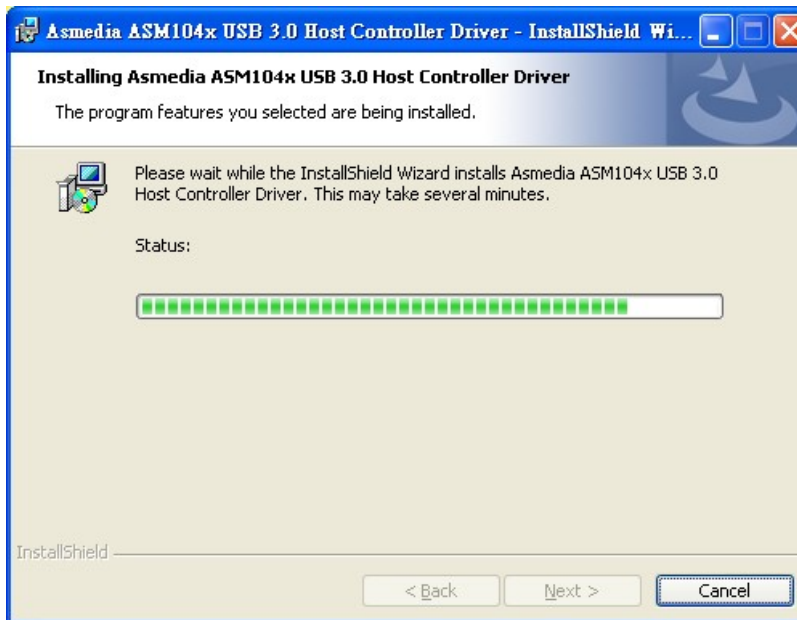

Figure 6-25: USB 3.0 Driver Installation Screen
Step 8: The **Install** screen appears and displays the progress of the installation (Figure 6-25).